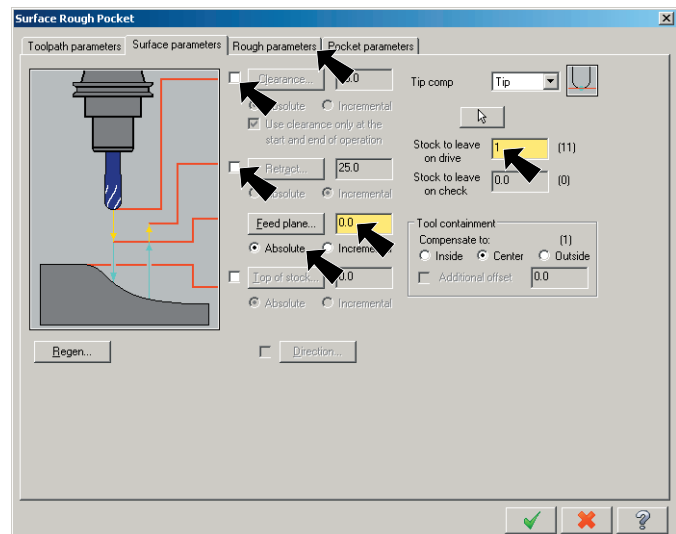

Fig. 31
Step 9. Uncheck **Clearance**, **Fig. 31**.
Step 10. Uncheck **Retract**, **Fig. 31**.
Step 13. Click the **Rough parameters** tab at the top of the dialog box, **Fig. 31**.